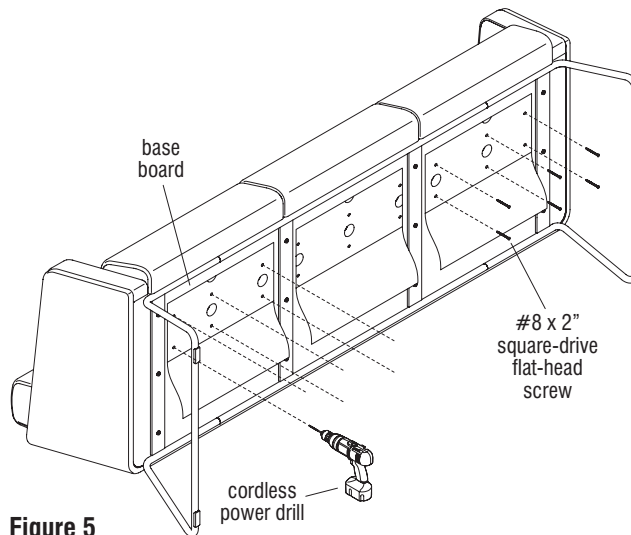

Figure 5
- Using the three mounting holes closest to the rear of each cushion, press down on the top, rear of the cushion and secure the cushions to the seat board using three previously removed #8 x 2" square-drive flat head screws per cushion (Figure 5 & Detail G).
- Using the three mounting holes closest to the front of each cushion, press down on the top, front of the cushion and secure the cushions to the seat board using three previously removed #8 x 2" square-drive flat head screws per cushion (Figure 5 & Detail H).